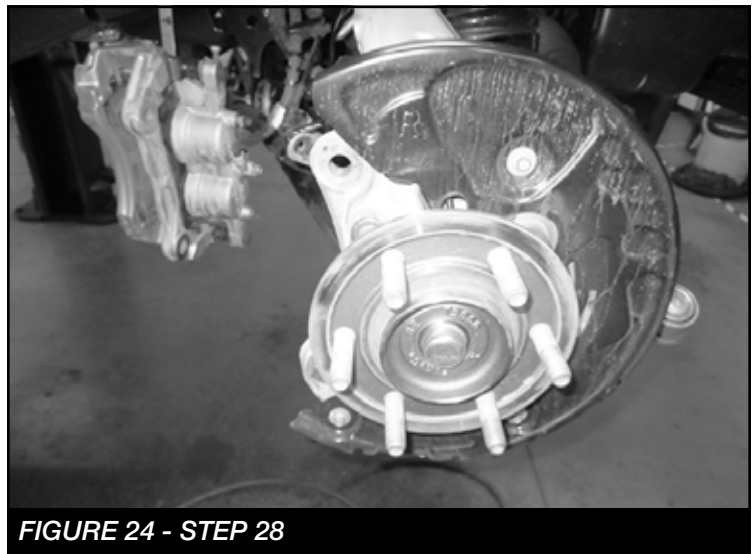

FIGURE 24 - STEP 28
28. Reinstall the factory dust shield using the factory hardware. Torque to 20 ft-lbs. **SEE FIGURE 24**